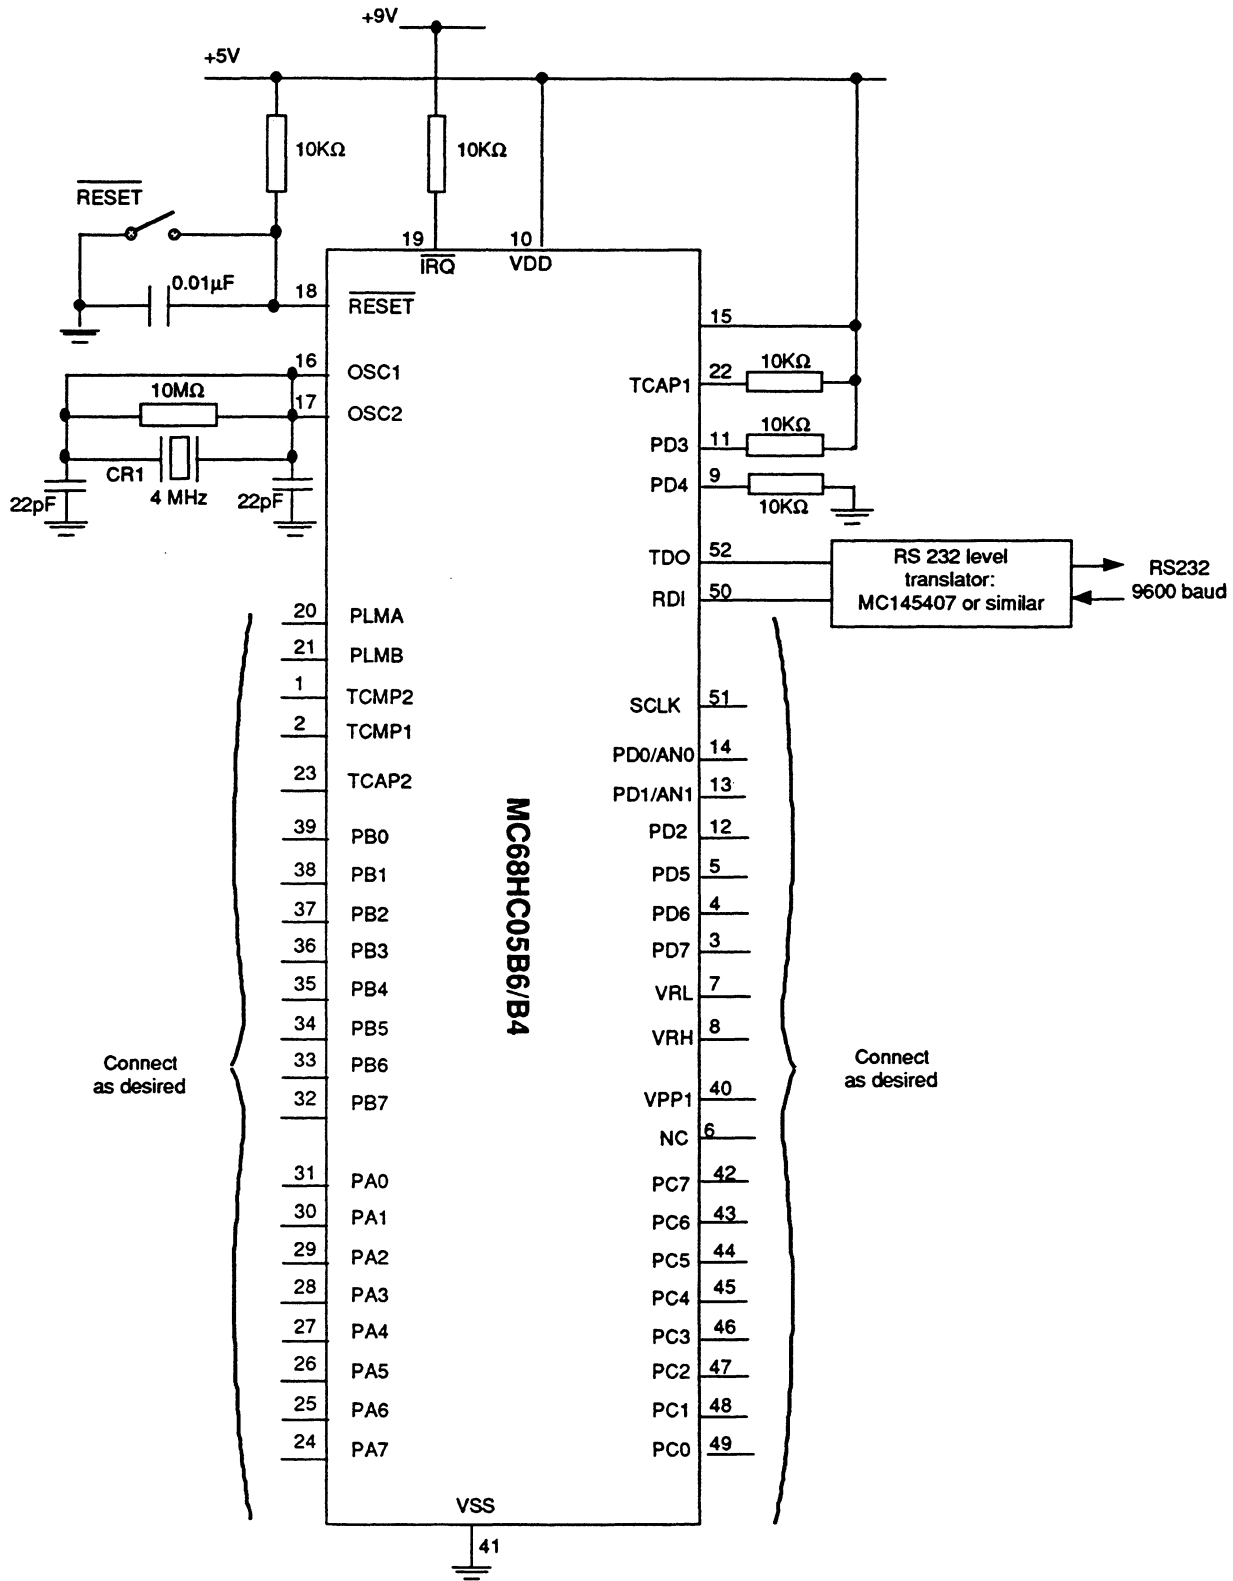

Figure 1. RAM bootstrap schematic
To use the built in RAM bootstrap program on the MC68HC05B6 the device must be configured as shown in Figure 1. If these conditions are met when the reset pin is released, then the serial bootstrap program described above will start to execute and a program can be downloaded via a 9600 baud RS-232 source. Personal computers usually have one or more RS-232 ports referred to as COM ports. To overcome the format difference between S-records and that accepted by the bootloader, a conversion program is required. There is also an additional problem when using a PC – when a file is copied to a COM port to transfer it, it is the ascii characters that are transmitted, not the binary data. This means for example that if a file containing the typed data byte \$A5 was copied via the COM port to the B6, the B6 would in fact receive two bytes: \$41 and \$35, which represent the ascii characters A and 5 respectively.
With the PC COM port set for 9600 baud and the 68HC05B6 configured as in Figure 1 the binary file can be transferred and executed as follows:
- 1) Configure the 68HC05B6 as in Figure 1.